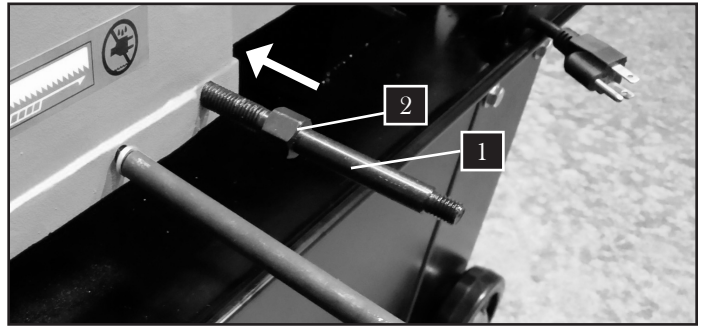

Fig. 3
1. Insert the hydraulic cylinder support rod (Fig. 3 - 1) into the saw base. Thread the rod in fully so that the stop nut (Fig. 3 - 2) is against the saw body.